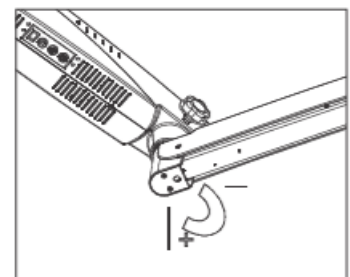

Fig. 54
2. Loosen two allen bolts by using allen wrench of 4 mm as shown in fig.54.